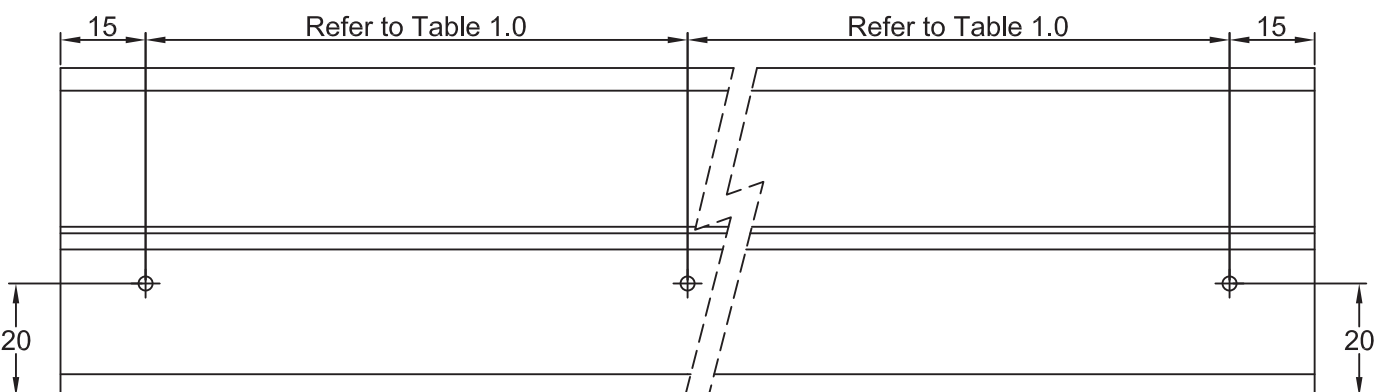

Figure 1.4 Recommended Screw Positions (dimensions in mm)
STEP 4: Mark out centre holes at the recommended spacing with bradawl or equivalent. Drill through profile using an appropriate 2mm twist drill-bit to mark centres on wall. Shown in below in Figure 1.4